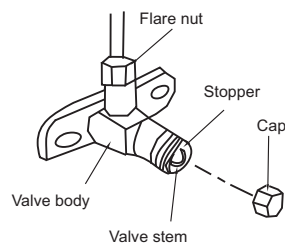

Fig.7-5
- All the stop valves should be opened before test operation. Each air conditioner has two stop valves of different sizes on the side of the outdoor unit which operate as Lo-stop value, respectively. (Refer to Fig.7-5)